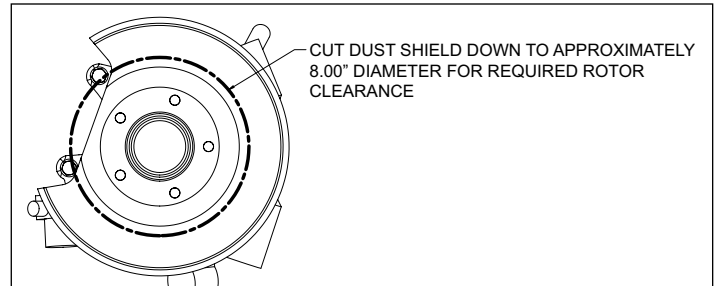

Figure 3. Dust Shield Modifications (Left side shown)
- The rear dust shield needs to be modified (cut), as shown by the dotted line in Figure 3 to clear the new Wilwood rotor. Cut on the dotted line approximately 8.00" diameter from the center of the axle hub. **NOTE:** *It is recommended that the dust shield be removed before modification, and the modification be performed by a qualified machine shop.*